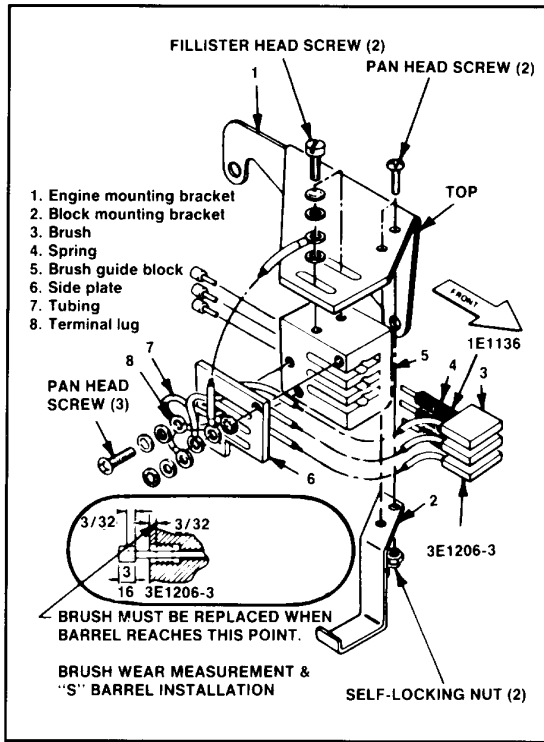

Figure 29 - 4E1294 Brush Block Assembly
F. Brush Block Assembly 4E1294 (Figure 29)